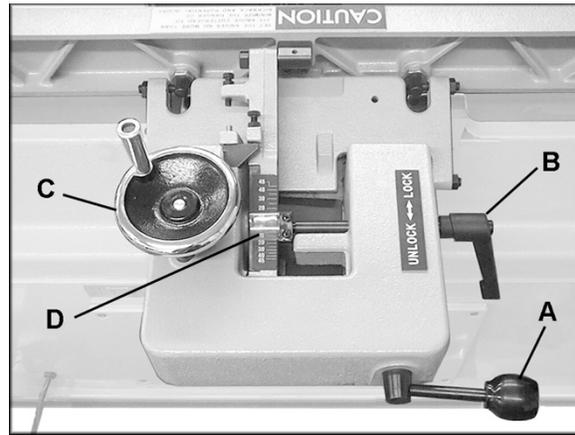
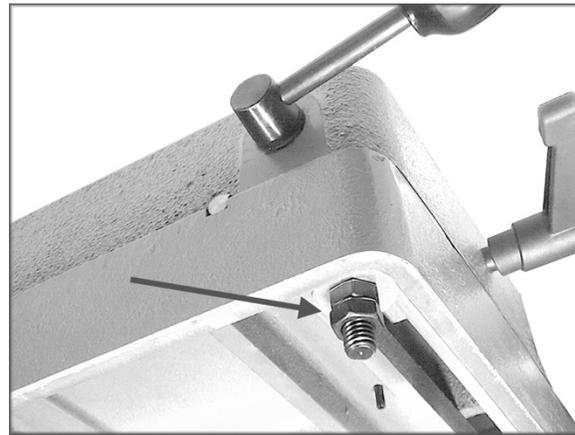

Figure 14
Figure 15
1. Loosen locking handle (A, Figure 14).
2. Push the entire fence assembly to the desired position, and tighten locking handle (A, Figure 14). A plastic buffer piece is mounted to the front of the fence to prevent scratching the table when moving the fence.
NOTE: If the lock handle (A, Figure 14) is in an inconvenient position, it can be adjusted. Loosen the two hex nuts underneath the slide bracket (Figure 15). Flip the handle to the desired position and re-tighten the hex nuts. Do not over-tighten the hex nuts, as this can make the fence difficult to move on the slide bracket.
1. Loosen locking handle (B, Figure 14).
2. Rotate handwheel (C, Figure 14) until the desired angle is indicated on the scale (D, Figure 14). Or you can place your beveled workpiece on the table and against the fence, and rotate the handwheel (C, Figure 14) until the angle of the fence matches the bevel of your workpiece.
3. Tighten locking handle (B, Figure 14).
To remove the fence assembly from the machine, remove the two hex nuts and one flat washer that secure it to the slide bracket (see Figure 15). Lift the fence straight up and off the Jointer.